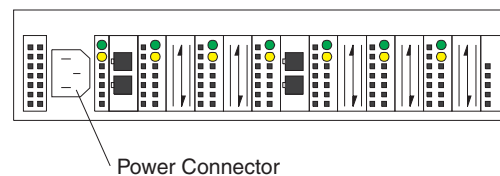

Figure 5. Type 3523 fibre channel hub power connector
1. Connect the power cord to the fibre channel hub, then to the electrical outlet. See Figure 5.